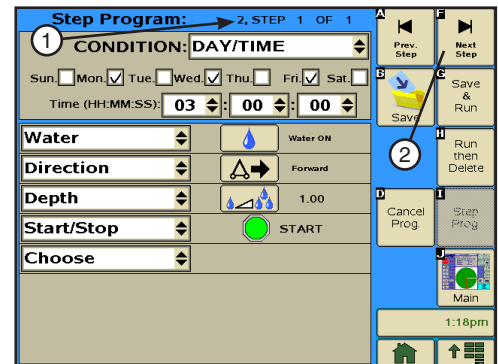

Figure 125-3 1. Step Program Identifier
5. Program the day and time for this step. Refer to Figure 125-3.